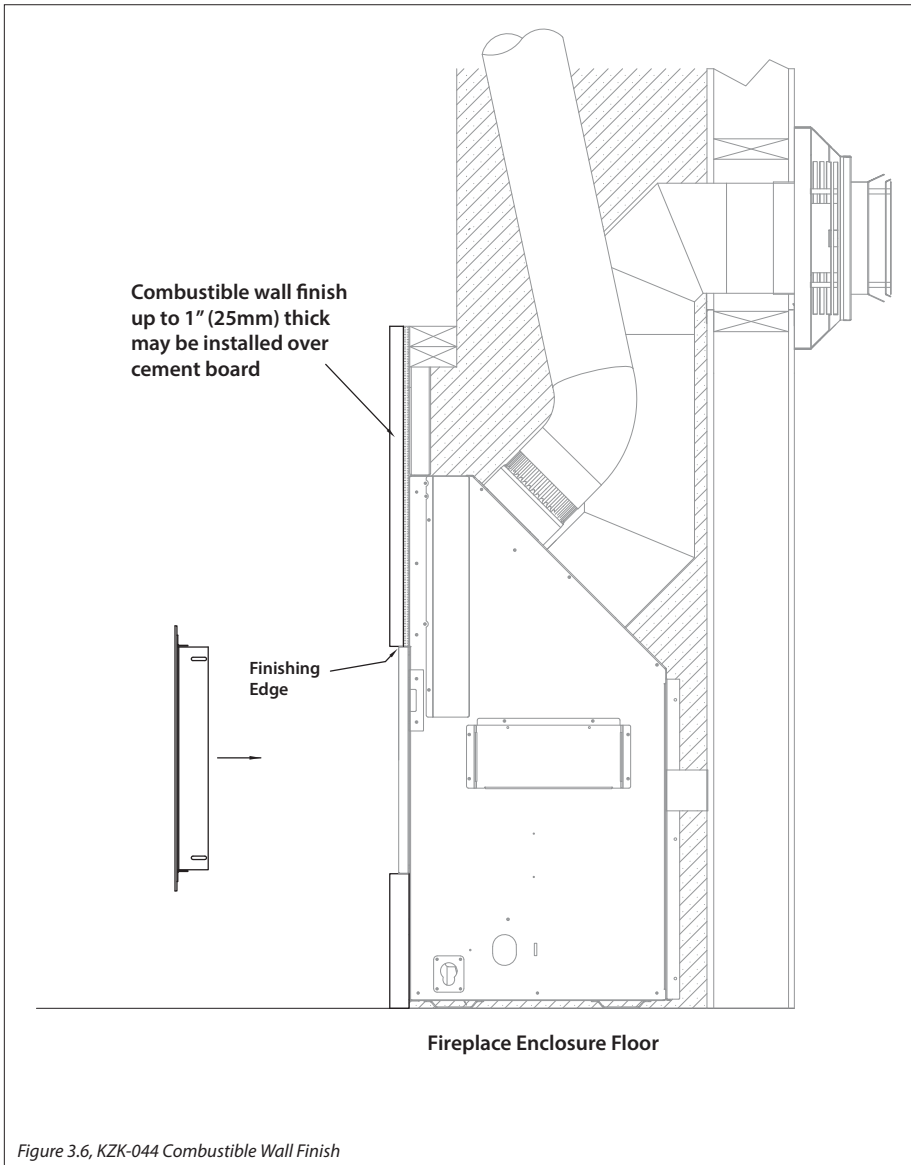

Figure 3.6, KZK-044 Combustible Wall Finish
- Figure 3.6 shows installation of combustible wall finish up to 1" thick. This combustible material goes on any required non-combustible materials as shown in Figure 3.1 on page 10.